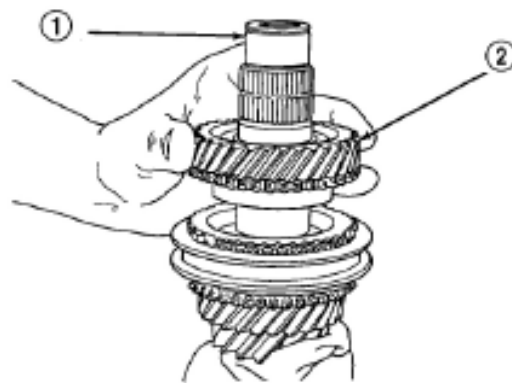

Figure 3-130 Disassembly of needle bearing
(8) Remove the fourth gear needle bearing (Figure 3-130). Check the needle bearing to see if the cage is broken or cracked.